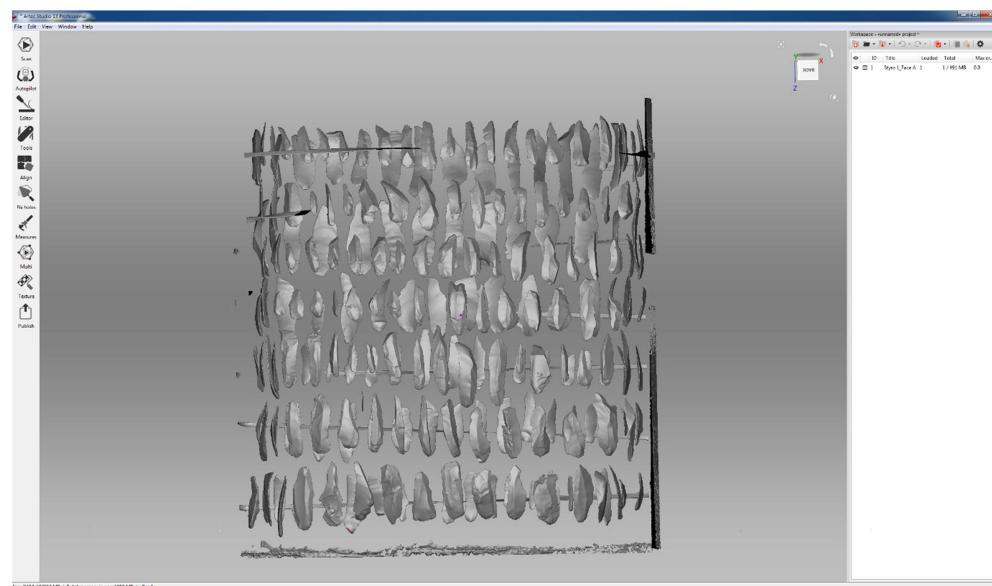

Fig. 23: Loaded 3D model of Styrofoam chunk 1 with both Faces A and B.
27.8 Inspect loaded model in Artec Studio (Fig. 23).